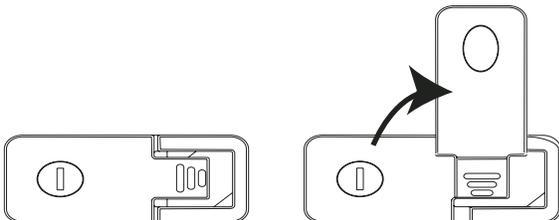

Figure 3
- c) Pull the latch handle up and turn it one-quarter turn (Figure 3).